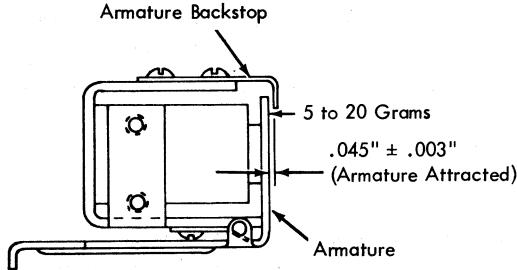

Figure 4-31. Selector Magnet
1. With armature attracted, set a clearance of $.045" \pm .003"$ between back stop. Adjust by moving armature stop (Figure 4-31).
3. Check that chute blade exerts 5 to 20 grams pressure on selector magnet armature (check at point indicated, Figure 4-31). Form chute blade anchor as required to obtain correct pressure.